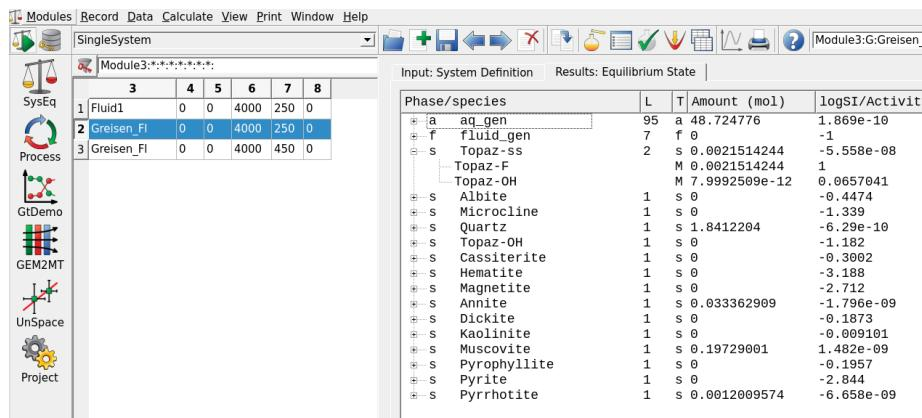

Figure 3.13: Equilibria Calculation mode showing the calculated composition of a topaz solid solution (Topaz-OH and Topaz-F).
- The last step is to switch to the **Equilibria Calculation Mode**, accept addition of the newly created phase and re-calculate the equilibrium of your two records created previously at 250 and 450 °C and 4000 bar. Now expand the Topaz solid solution, congratulation you just formed topaz! See also Figure 3.13.